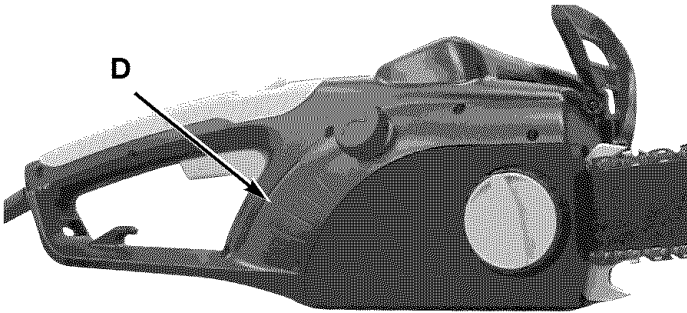

Fig. 25
You can check the oil reservoir level using the oil reservoir window (D) provided on the right side of the saw. The reservoir is full when oil is at the top of the window (Fig. 25).